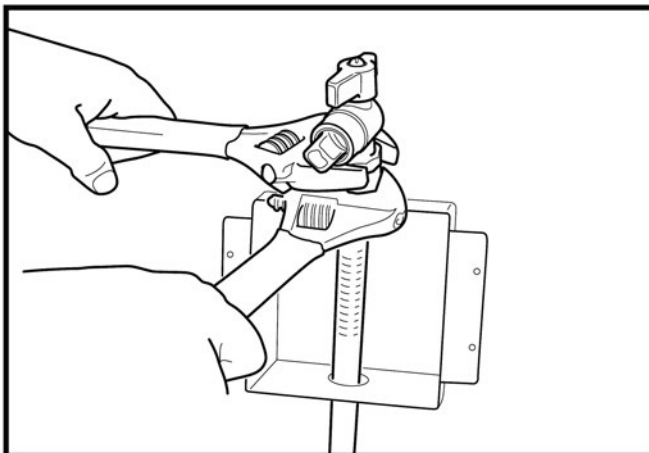

Figure: 4-31
5. Thread 90 degree ball valve onto nut and tighten so valve outlet faces forward. It is recommended that crescent wrenches be used to avoid damaging valve or nut. Figure: 4-31 **Do not use thread sealants on this connection.**